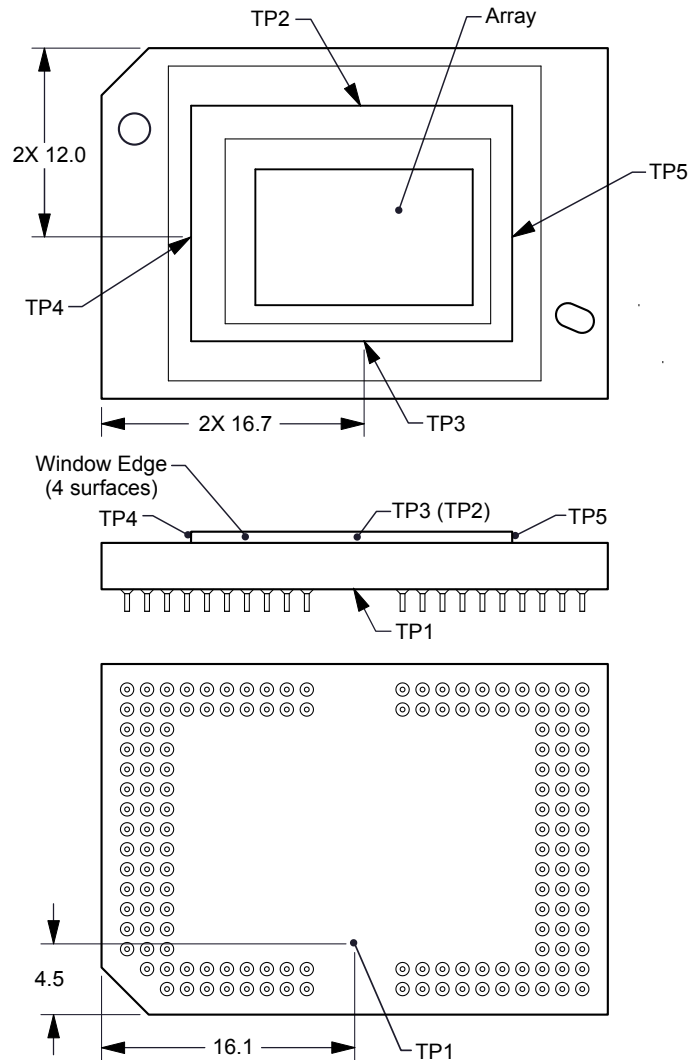

Figure 6-1. DMD Thermal Test Points
Micromirror array temperature cannot be measured directly, therefore it must be computed analytically from measurement points on the outside of the package, the package thermal resistance, the electrical power, and the illumination heat load. The following equations show the relationship between array temperature and the reference ceramic temperature, thermal test TP1 Figure 6-1 shown above:
- T_{CERAMIC} = Measured ceramic temperature (°C), TP1 Figure 6-1
- $R_{\text{ARRAY-TO-CERAMIC}}$ = Thermal resistance of package specified in Section 5.5 from array to ceramic TP1 Figure 6-1 ($^{\circ}\text{C/W}$).
- Q_{ARRAY} = Total DMD Power (electrical + absorbed) on the array (W)
- $Q_{\text{ELECTRICAL}}$ = Nominal electrical power (W)
- Q_{INCIDENT} = Incident illumination optical power (W)
- $Q_{\text{ILLUMINATION}}$ = (DMD average thermal absorptivity $\times$ Q_{INCIDENT}) (W)